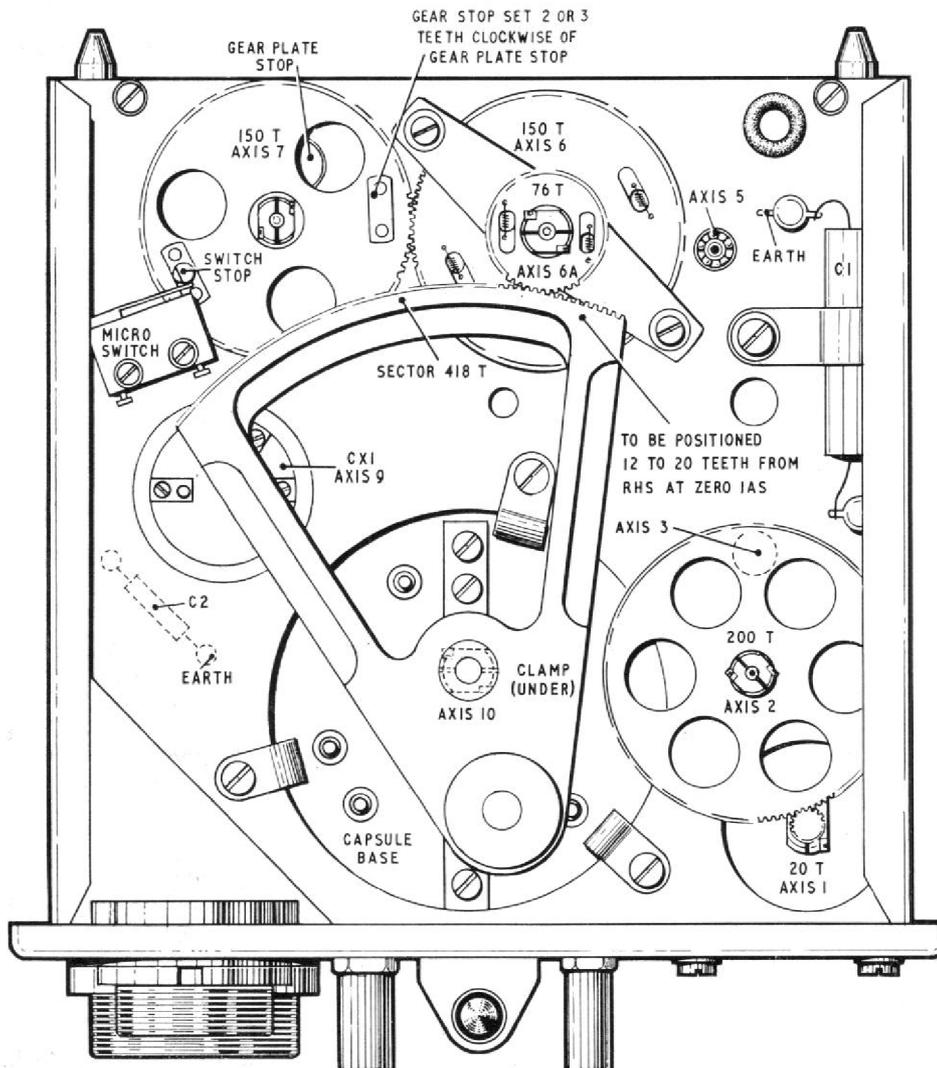
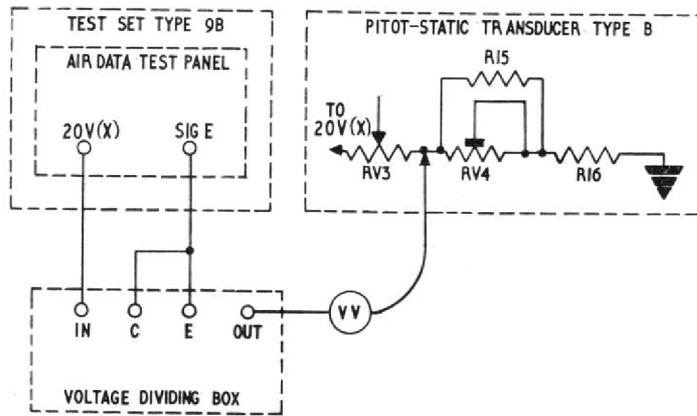

Fig. 1. Pitot-static transducer, Type B - underside view
Fig. 2. Test connections for log (P-S) calibration
1. The tests detailed in this appendix are additional to the standard serviceability test (Appendix 1) and are necessary either when certain components are replaced (Appendix 4) or during fault diagnosis (Appendix 2). Unless instructed to the contrary, these tests are to be performed with the transducer connected to the test set, Type 9B, and either the pitot/static test set, Mk. 3 or the air data test set, Type B as shown in Appendix 1, fig. 1, and the cover removed. The procedures detailed in Appendix 1, para. 4 to 15, must all have been carried out.
7. Connect the valve voltmeter set to the 300 mV range across capacitor C2 with the earth terminal of the meter connected to the earth terminal of C2 (fig. 1). Set the PCU mains switch and switch S1 (test set, Type 9B) to ON. Reduce the range of the valve voltmeter as necessary and check that the null indicated on the meter is not greater than 2mV r.m.s.; if necessary, adjust RV5 (Chap. 12, fig. 2) to achieve this. If the smallest null obtained is greater than 2mV, carry out the checks of Appendix 2, para. 10. If these are correct, then declare the transducer un-serviceable.
10. With switches set as in para. 7 displace the 200T gear of axis 2 (fig. 1) one turn against the servo action and release it; it should make one overshoot in either direction before coming to rest. Repeat displacing the servo in the opposite direction. RV1 should be adjusted, if necessary, to achieve the required conditions.
11. Connect the valve voltmeter set to the 10V range across capacitor C1, with the meter earth terminal connected to the capacitor earth terminal (fig. 1). Set the PCU mains switch and switch S1 (test set, Type 9B) to ON. The voltage as read on the valve voltmeter should not exceed 5V r.m.s.
(2) Connect a shorting link between the junction of RV3 and RV2 and the 20V(X) side of RV2.
(3) Connect up subsidiary equipment as shown in fig. 2.
(4) Set the dividing box to a ratio of 1814, switch S1 (test set, Type 9B) to ON and adjust RV4 until the valve voltmeter indicates a null.
(5) Remove the shorting link across RV2 and disconnect the wander lead.
(6) Connect the wander lead to the junction of RV3/RV2, set the dividing box to 8270 and adjust RV2 until the valve voltmeter indicates a null, which must be less than 2mV.
(4) If the cam follower is incorrectly positioned, release the clamp locking CU8 (fig. 1) and set the cam follower to the correct position without disturbing the gear train. Refasten the clamp to the correct torque loading and check the G1 reading.
(5) Reduce the P-S pressure to 16.33 mb (100kt) and check that the G1 reading is 00350 ± 2 divisions. If this is incorrect, release the three 6BA screws clamping CX1 and without disturbing the gear train, turn the synchro until the G1 reading is correct. Refasten the clamp, ensuring that the G1 reading remains constant whilst doing so.
(6) Carry out the ranging test of Appendix 1.
(7) If the IAS results obtained are not within the permitted tolerances, repeat the procedure of sub-para. (2), (3) and (4), retarding the cam a fraction if the errors are positive and advancing the cam if the errors are negative.
(8) Repeat sub-para. (6) and (7) until all readings are within tolerance.
- (1) Switch S1 (test set, Type 9B) to OFF.
- (2) Disconnect pin N on the magnetic amplifier.
- (3) Connect the multimeter set to the 10mA d.c. range between pin N and the loose lead and switch S1 (test set, Type 9B) to ON.
- (4) Rotate the 200T gear of axis 2 (fig. 1) against the action of the servo until the multimeter indicates 4mA; to achieve this, the gear should not rotate through more than one third of a revolution.
21. Connect the valve voltmeter set to the 100V range across capacitor C1 with the meter earth terminal connected to the capacitor earth terminal (fig. 1). Repeat the test of para. 17, noting the valve voltmeter reading and the multimeter reading. When the multimeter reads 4mA, the valve voltmeter should read greater than 30V in each direction of revolution of the gear.